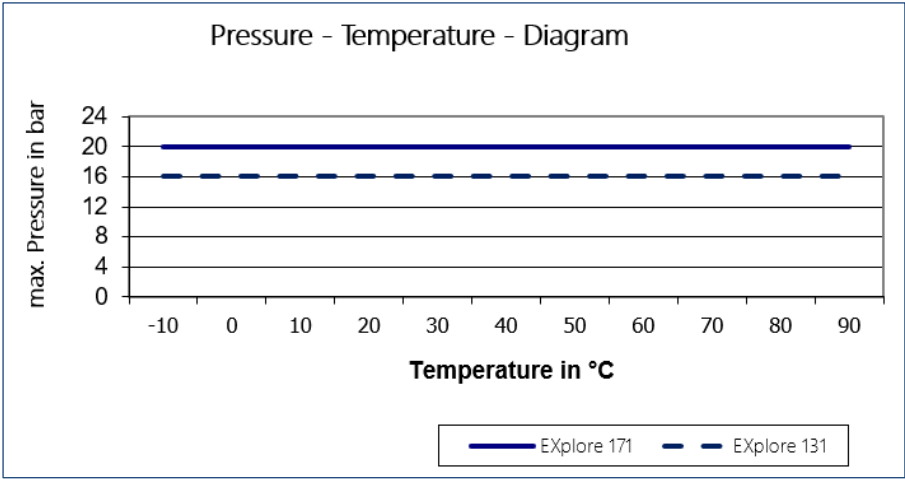

Fig. 2: Pressure temperature diagrams for EXplore
4. Weld the sections between the 4 points (Fig. 2, below)